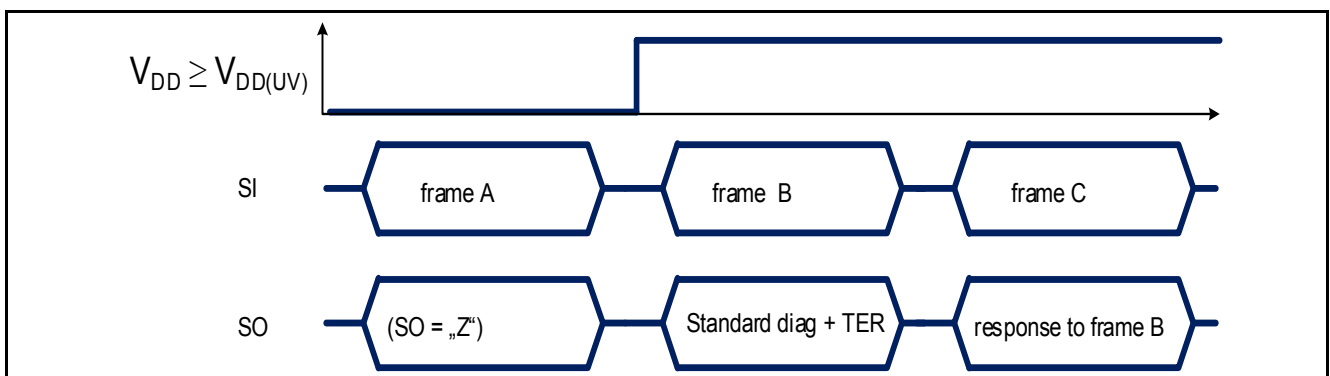

Figure 37 TLD5541-2QV response after coming out of Power-On reset at V_{DD}
- when TLD5541-2QV logic supply comes out of an Undervoltage reset condition ($V_{\text{DD}} < V_{\text{DD(UV)}}$) as shown in **Figure 37** or $V_{\text{EN/INUVLO}} < V_{\text{EN/INUVLOth}}$)